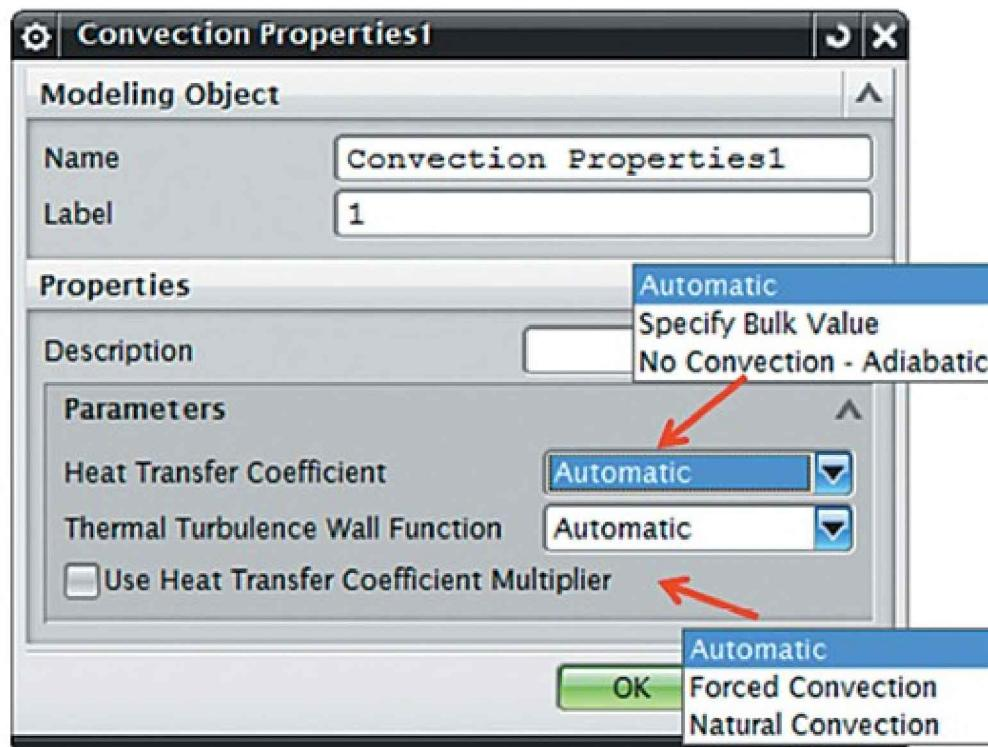

Figure 6.7. Specifying convective heat exchange properties
- You can use *Convection Properties* to set up parameters of convective heat exchange with the surface of the body using the **Modeling Objects** command (Figure 6.7).
The *Automatic* method of specifying the heat transfer coefficient (Figure 6.7) corresponds to calculating the coefficient based on fluid temperature data for the cell adjacent to the wall. In this case, the **Convection Properties1** dialog box contains the following parameters: